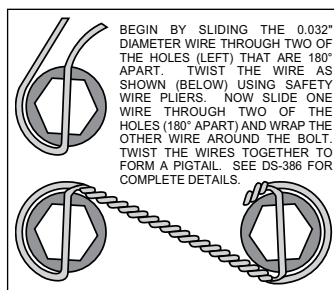

Figure 4. Safety Wire Diagram
Orient the rotor (16) and the hat (17) as shown in Figure 1 and Photo 3. Attach rotor to hat using bolts (18) and washers (19). Apply red *Loctite*® 271 to the bolt threads and torque to 155 in-lb using a criss-cross pattern. For an added measure of security, the bolts may be safety wired using standard 0.032 inch diameter stainless steel safety wire as shown in Figure 4. Please refer to Wilwood's data sheet DS-386 (available at [www.wilwood.com/Pdf/DataSheets/ds386.pdf](http://www.wilwood.com/Pdf/DataSheets/ds386.pdf)) for complete safety wire installation instructions.